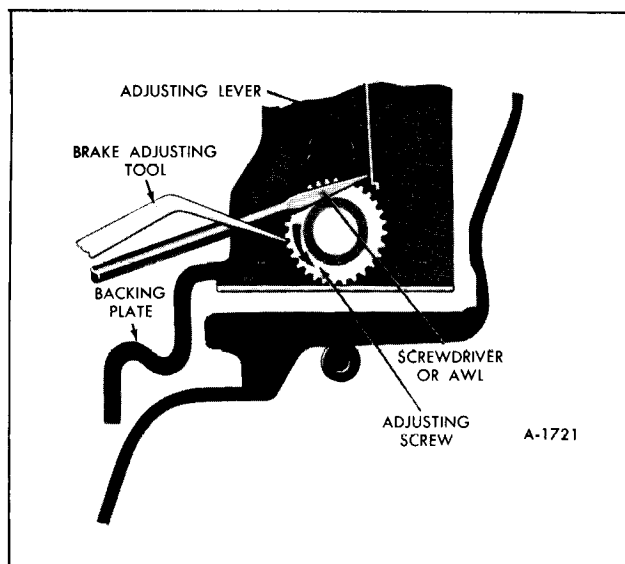

Figure 7-Backing Off Brake Adjustment
2. Back off brake adjusting screw (figure 7) at each wheel 30 notches. If shoes drag lightly on drum,
NOTE: It may be necessary to back off the brake shoe adjustment before the brake drum can be removed. To back off brake shoe adjustment, refer to Figure 7.